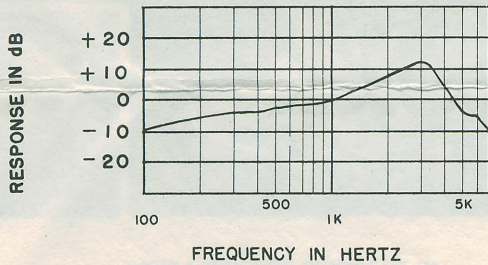

Fig. 4
- FREQUENCY RESPONSE: See Fig. 4, on other side.